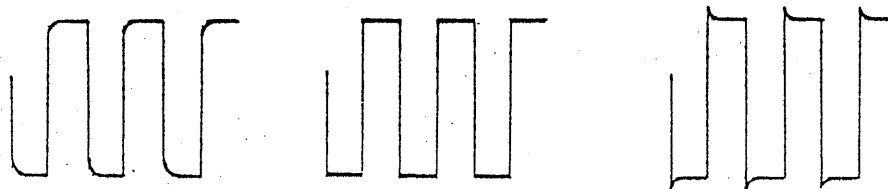

Fig. 6
- (1) A 1 kHz square-wave with $0.1\mu\text{s}$ or less and without overshoot is required for the adjustment.
- (2) Set the VERT GAIN switch to 1/10 and adjust the square-wave amplitude for a four division display.
- (3) Adjust the semi-fixed capacitor (21) in Fig. 6 for the correct waveform.
- (4) Set the VERT GAIN switch (5) to 1/100 and adjust the square-wave amplitude for a four division display.